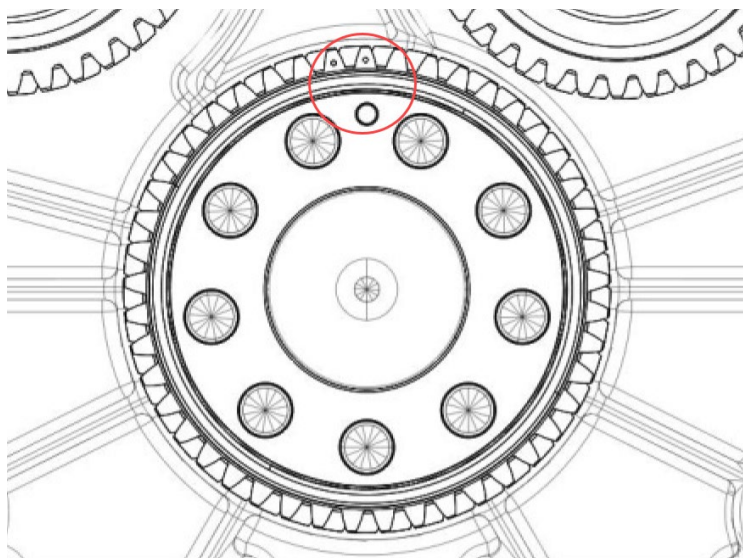

Figure 122.
11. Install the crankshaft timing gear and ensure the dowel pin and both timing marks are at the 12 o'clock position (Figure 122).